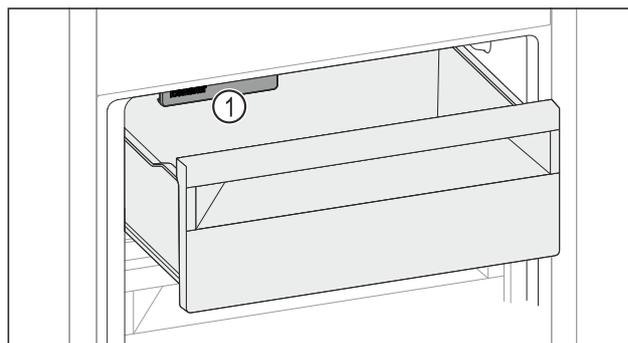

Fig. 158
- ▶ Pay attention to the IceMaker Fig. 158 (1).